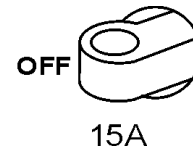

Figure 22. GFCI Circuit Breaker (OFF)
2. Place GFCI circuit breaker (Figure 22) in the **OFF** position.